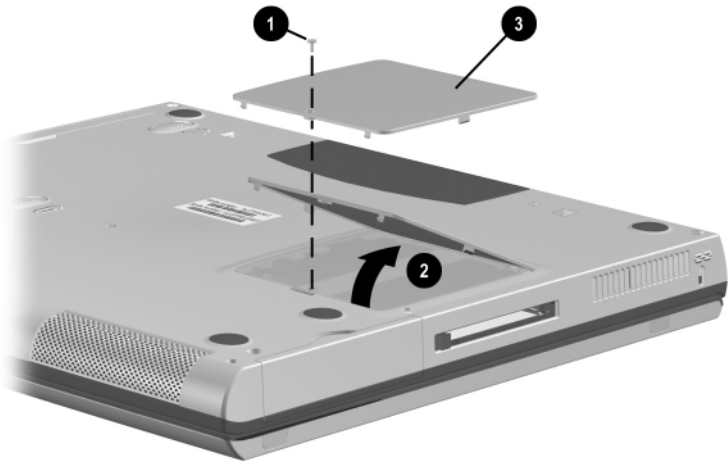

Figure 5-6. Removing the Memory Expansion Compartment Cover
3. Remove the silver M2 × 5 screw ❶ that secures the memory expansion compartment cover to the base enclosure (Figure 5-6).
4. Use the notch in the front of the memory expansion compartment cover to lift up the front edge of the cover and swing it up and toward the back of the computer ❷.
5. Remove the memory expansion compartment cover ❸.